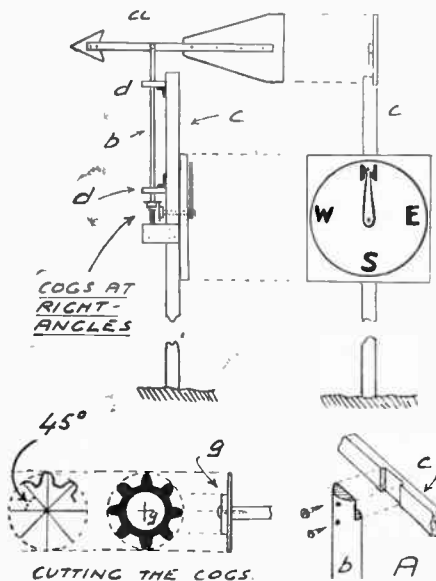

Fig. 1—Details of the main pillar
The bar (a) is 1ft. 6in. long, $\frac{1}{2}$ in. thick and $\frac{3}{8}$ in. deep. This is deeper than usual as it has to fit firmly to the axle, as (A) Fig. 1. At one end is the arrow-head and the other the vane 10in. long and 6in. deep at the back. This item can be made of stiff card as long as it is well painted over to make it weather-proof. A better job can be effected by using light tin or aluminium taken from a discarded cooking utensil.